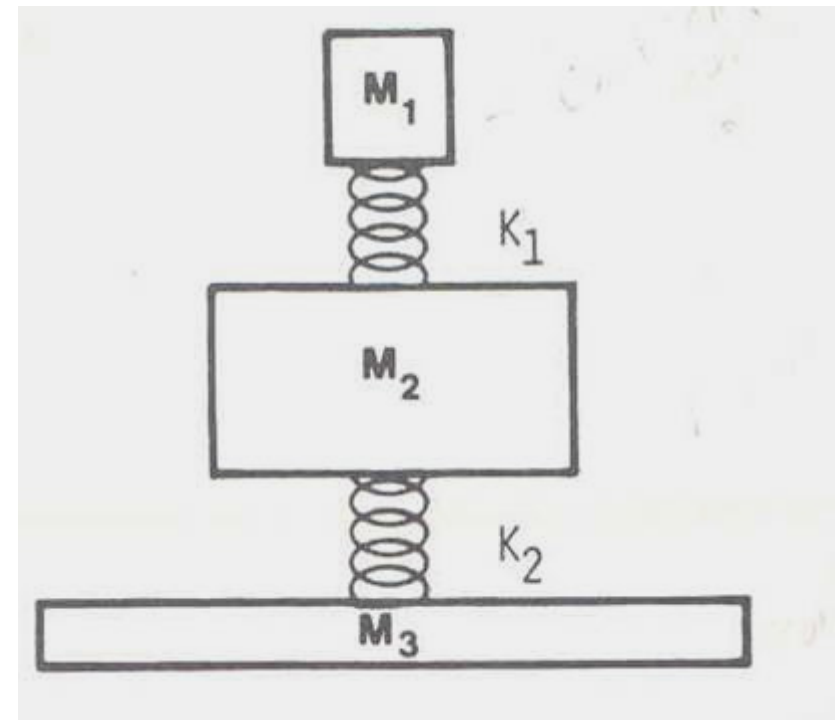

Figure 13.5 A spring-mass model for the product-package system
- shown in Figure 13.5: the product-package model: